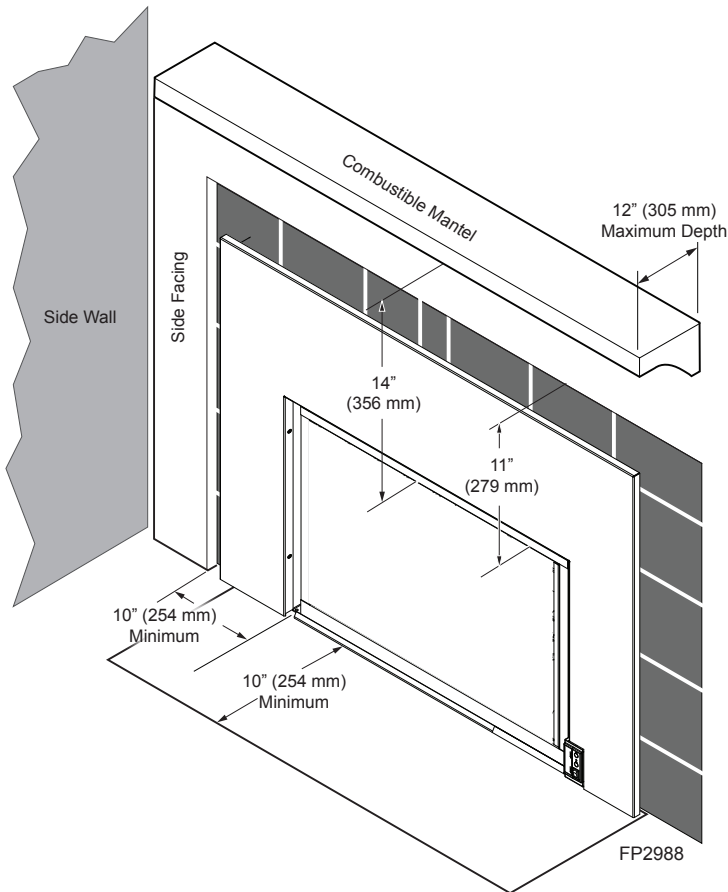

Figure 3 - Mantel Clearances
- Minimum clearances to combustibles, such as mantels, must be maintained. *Refer to Pages 8 and 9, Figures 3, 4 and 5.*
The dimensions shown on *Pages 8 and 9, Figures 3 and 4*, are minimum clearances to maintain when installing this heater. Follow these instructions carefully to ensure safe installation. Failure to follow instructions exactly can create a fire hazard.